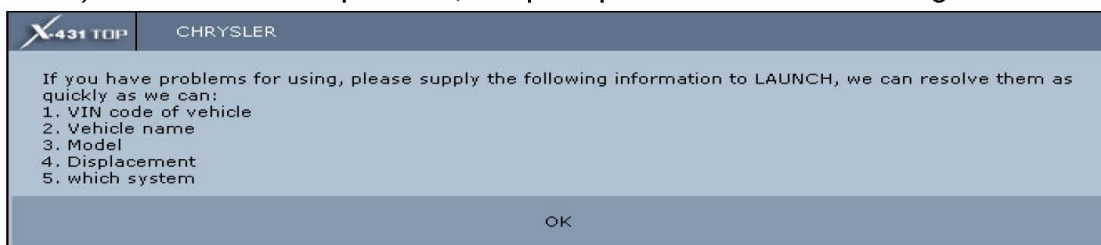

Figure 9
- B). If it is Non-CAN protocol, the prompt box is as shown in Figure 9.